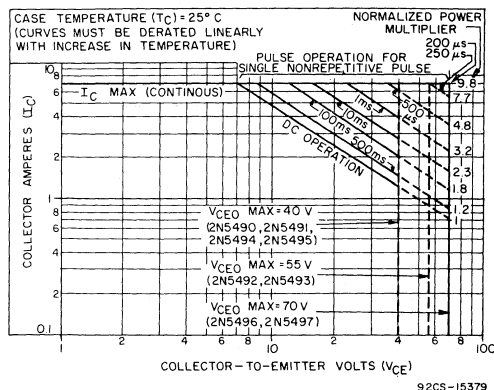
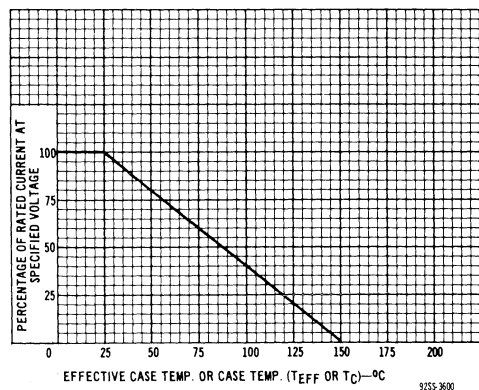
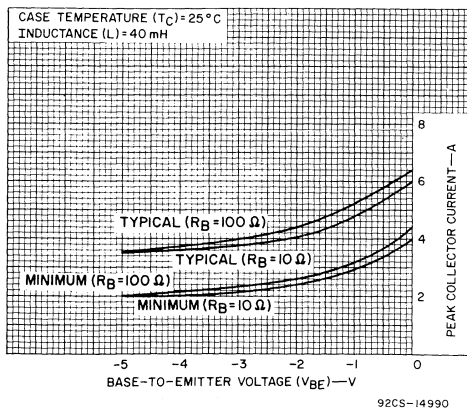

Fig. 2 - Maximum operating areas for types 2N5490 through 2N5497 inclusive.
Fig. 3 - Dissipation derating curve for types 2N5490 through 2N5497 inclusive.
Fig.7 - Reverse-Bias, Second-Breakdown Characteristics for Types 2N5490 through 2N5497 inclusive.
At case temperatures above 25°C . . . . .	Derate linearly at 0.4 W/°C or see Figs. 2 & 3.
The maximum-area-of-operation curves, Fig.2, show the dc and pulse current derating curves applicable to these transistors at a case temperature of 25°C. The portions of the curves in which the slope is equal to -1 on these logarithmic plots indicate the regions where the devices are thermally limited (i.e., maximum allowable power dissipation does not vary with voltage). The curves shown in Fig.2 must be derated linearly with increasing case temperature as shown in Fig.3.
**Non-Repetitive Pulse.** Reference to Figs.2 and 3 can facilitate direct calculation of the maximum dissipation limits when only a single non-repetitive pulse condition occurs. The recommended procedure for establishing the maximum dissipation is as follows: First, the temperature derating factor (TDF) is determined from the dissipating derating curve in Fig.3 for the case temperature  $T_C$ . The normalized power multiplier  $M$  is then obtained from Fig.2 for the pulse duration employed. The maximum power for single-pulse operation
**Repetitive-Pulse Operation.** The collector-current limits shown in the maximum-operating-area curves of Fig.2 must be reduced when repetitive pulses are applied because of the rise in case temperature (caused by average power dissipation) and the heat energy stored in the thermal capacitance of the transistor pellet and header. The amount of current derating is determined by the slope of the dissipation derating curve, Fig.3, where  $T_{EFF}$  is the effective case temperature produced by the pulses.
The recommended procedure for establishing the maximum dissipation for repetitive-pulse operation is as follows: The normalized power multiplier ( $M$ ) is determined from Fig.2 for the pulse duration employed. The peak power for repetitive pulses ( $P_{RP}$ ) $P_{PK}$  may then be calculated from the following equation:
The recommended procedure for establishing the maximum dissipation for repetitive-pulse operation under these conditions is as follows: First, the temperature derating factor (TDF) is determined from the dissipating derating curve in Fig.3 for the case temperature  $T_C$ . The normalized power multiplier  $M$  is then obtained from Fig.2 for the pulse duration employed. The peak power may then be calculated from the following equation:
The energy required to induce second breakdown when the transistor is turned off depends on the current during the "on" condition, the emitter-to-base voltage and resistance when the transistor is turned off, and the amount of inductance in series with the collector. The curves shown in Fig.7 should prove useful in the design of circuits having inductive loads (such as solenoid- or relay-control circuits, magnetic-circuits, magnetic-deflection circuits, and switching regulators) without protective zener diodes across the collector-emitter junction. Also, these curves can be used in the design of circuits in which some leakage inductance is present (such as inverters, converters, and transformer-coupled power amplifiers.)
The curves shown in Fig.2 are based on the premise that the junction temperature must not exceed the maximum allowable junction temperature. Also, this limit must not be exceeded in the reverse-bias mode. After it is established that the operation of the unit lies within the capability shown in Fig.7, a computation is required to insure that the reverse bias energy will not exceed the derated power time as shown in Fig.2. Derating is accomplished as described in the preceding discussion of forward-bias operation.